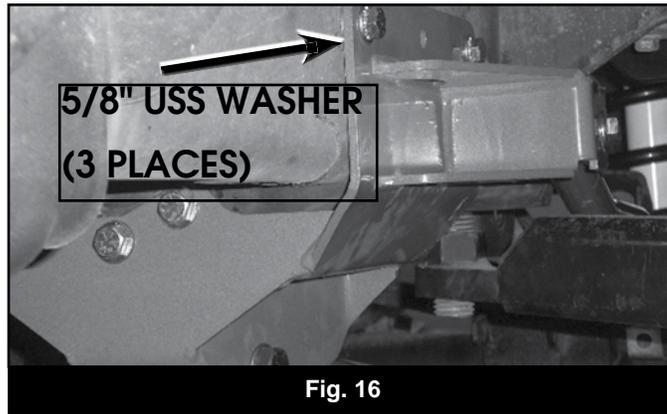

Fig. 16
32. Reinstall brackets with 9/16" x 7" bolts through the bracket and transmission cross member. Attach to rivet nuts with 1/2" x 1-1/2" bolts with loc-tite on threads, use a spacer washer at the 3 locations on outside of the frame rail. Tighten 1/2" hardware to 60 ft-lbs and 9/16" hardware to 95 ft-lbs. (Fig 16)